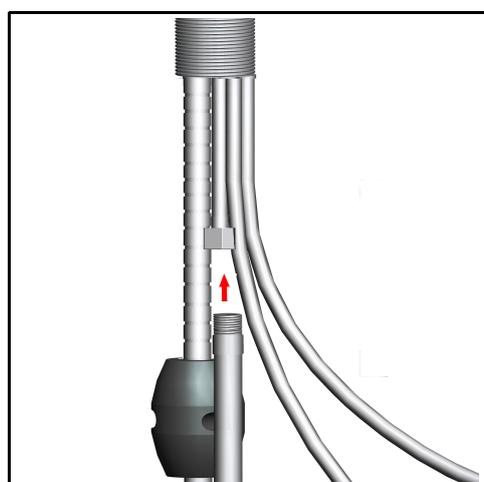

Figure 5
7. Make sure the counterweight is vertical on the loosest section of the motion hose and tighten the screws of the counterweight completely with a Phillips-head screwdriver (**Figure 5**).